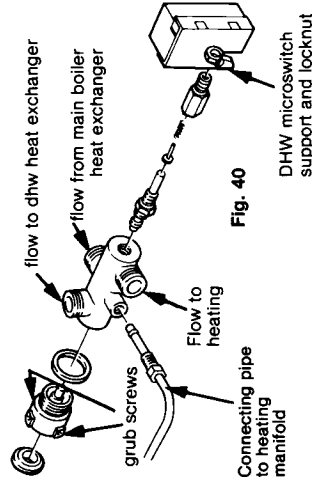
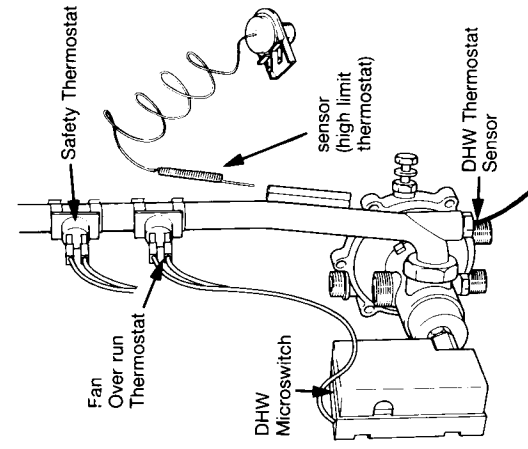

Fig. 40
Fig. 44
- 8.16.6 Remove retaining nut (fig. 40) and remove micro switch pulling tabs off fan overrun. (fig. 44)
- 8.17.4 Unscrew retaining nut and remove micro switch (fig 40).
- Refer to fig. 44
Refer to figs. 44 & 45
- 8.22.31** Unscrew sensing probe from bottom of main flow tube, (fig. 44) N.B. if the plastic grill has not been removed (8.4.2) it will need to be done now.
Refer to fig. 44